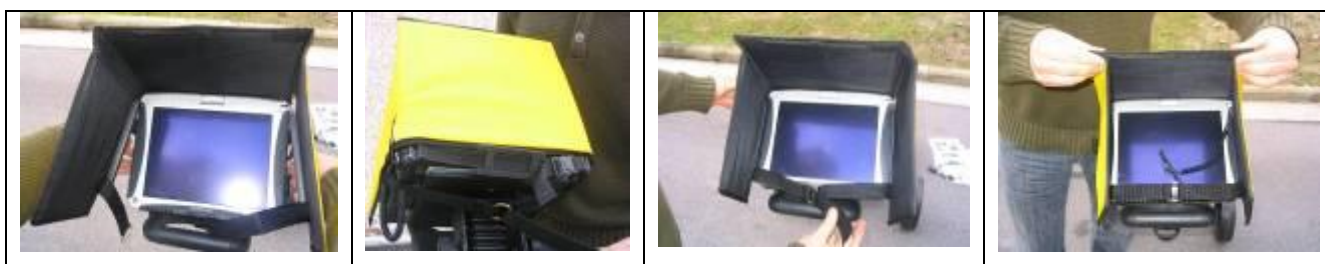

Fig. 4.10 – Sunshade on horizontal screen
- Another possibility is to work with the horizontal touch screen (see Fig. 4.10). In this case, first take out the touch pen, then fix the lateral guides of the sunshade to the lateral sides of the screen. Then close and tighten the belt under the laptop. Finally, tighten the inner edges of the sunshade.